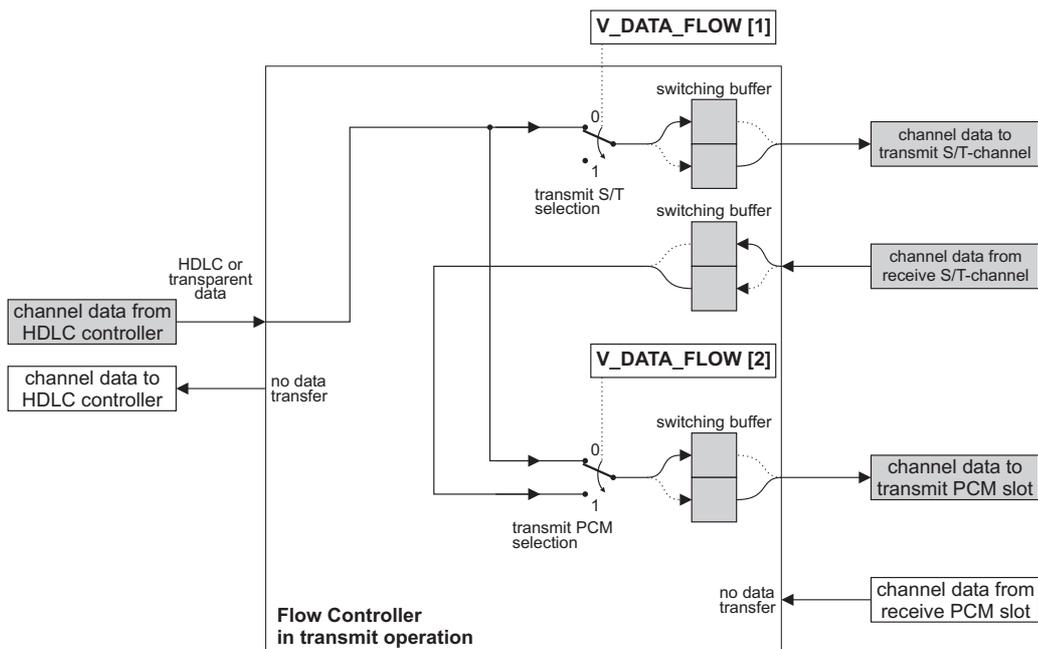

Figure 3.3: The flow controller in transmit operation
In transmit operation one HDLC or transparent byte is read from a FIFO and can be transmitted to the S/T and the PCM interface as shown in Figure 3.3. Furthermore, data can be transmitted from the S/T interface to the PCM interface. From the flow controller point of view, the switches select the source for outgoing data. They are controlled by bitmap `V_DATA_FLOW[2..1]` in register `A_CON_HDLC[n,TX]` where `n` is a FIFO number. Transmit operation is configured with `V_FIFO_DIR = '0'` in the multi-register `R_FIFO`.
- The PCM interface can transmit a data byte which comes either from the FIFO or from the S/T interface. Bit `V_DATA_FLOW[2]` selects the source for the PCM transmit slot (see Figure 3.3). The receiving S/T-channel has always the same number as the transmitting S/T-channel .